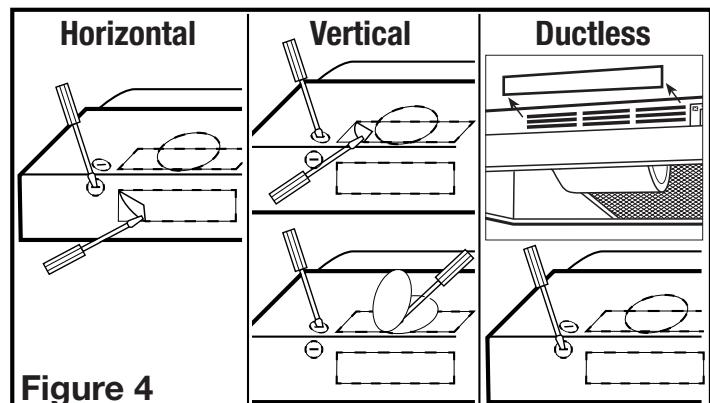

Figure 4
- 2a. **Horizontal or Vertical** - Remove the square knockout by inserting a screw driver under the edge and break the tabs holding it in place. Peel back with pliers (Figure 4).
- 2b. **Ductless** - Remove the hood's front louver cover, exposing the front air slots. To remove louver slide to one side and lift the trailing edge. Do not use a screwdriver or any other object that could scratch the hood (Figure 4).
- 2c. **7" Round** - Remove the round knockout located on the top of the hood by inserting a screw driver under the edge and break the tabs holding it in place. Peel back with pliers (Figure 4).
3. Determine where the electrical service will enter the hood and remove the appropriate electrical knockout by inserting a screw driver into the slot and rocking back and forth until the knockout comes loose (Figure 4).